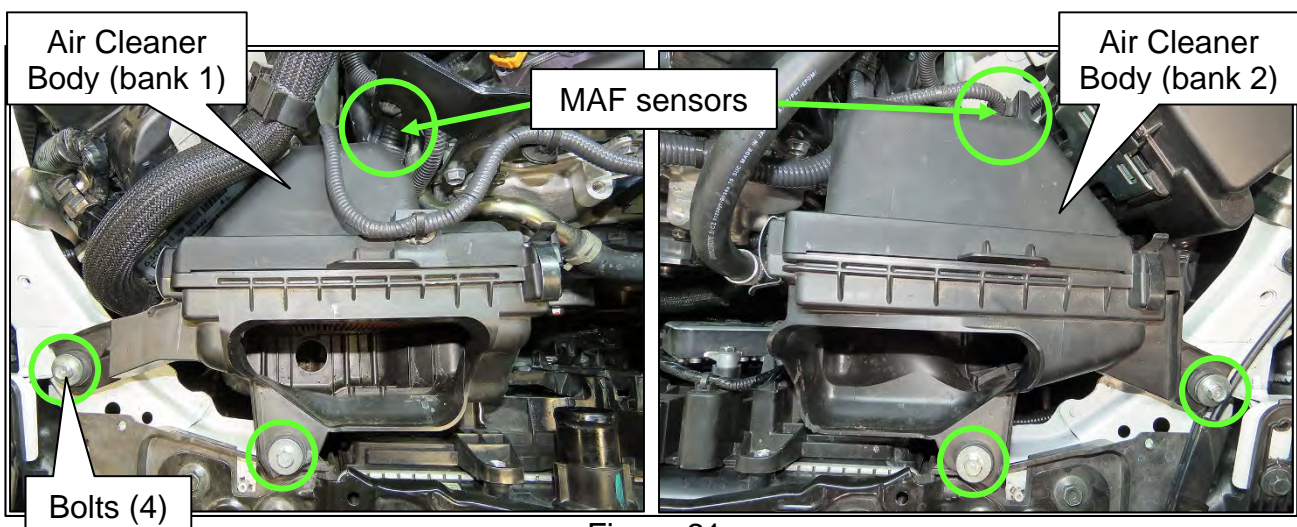

Figure 21
32. Disconnect both MAF sensor wiring harness connectors from the MAF sensors (Figure 21), located on the Air Cleaner Body (bank 1) and Air Cleaner Body (bank 2).
34. Unbolt both Air Cleaner Body (bank 1) and Air Cleaner Body (bank 2); two (2) bolts each where shown in Figure 21.